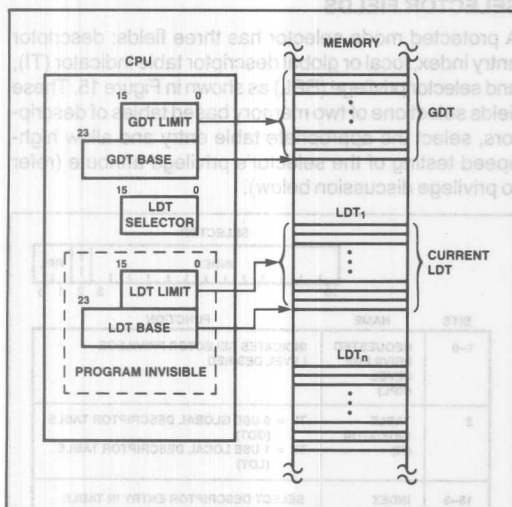

Figure 16. Local and Global Descriptor Table Definition
Two tables of descriptors, called descriptor tables, contain all descriptors accessible by a task at any given time. A descriptor table is a linear array of up to 8192 descriptors. The upper 13 bits of the selector value are an index into a descriptor table. Each table has a 24-bit base register and a 16-bit limit register that confine descriptor access to the defined limits of the table as shown in Figure 16. A restartable exception (13) will occur if an attempt is made to reference a descriptor outside the table limits.